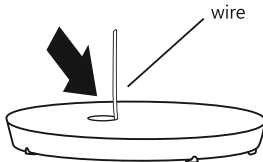

Fig. 1
1. Retract the wire to the inside of the base, leaving the proper size. (Fig 1)